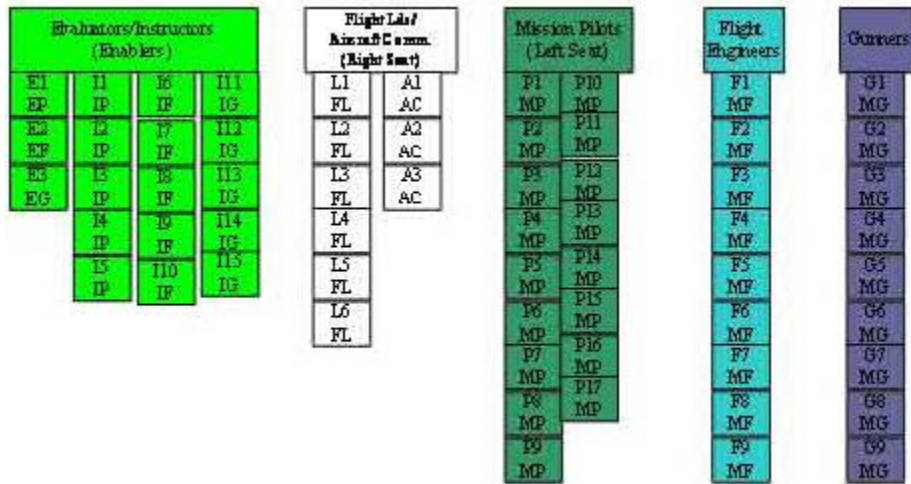

Figure 3. Minimum Manning Map
Step 3: Create a *minimum* manning map. A manning map divides aircrew into separate basic qualifications as well as an enabler category. Each billet in each qualification is given a billet number. These manning slots are built upon our minimum requirements defined in Figure 2, *not* a UMD authorization. These billets are somewhat like position numbers (PN), but more useful. A PN on a UMD might say “you are authorized a pilot,” or “you are authorized 18 flight engineers.” A billet on a manning map says, “I *need* one evaluator pilot, he *will* be in DOV and I will not deploy him,” or “I *need* 5 instructor flight engineers in order to produce three deployable UTCs.” This manning map gives the commander instant awareness of what positions he must fill to meet requirements. Figure 3 is an example *minimum* manning map for our HH-60G squadron. Here personnel resources are organized into labor pools and assigned billets. For example, “E1” is the billet assigned the unit’s evaluator pilot. The minimum manning map answers the question, “How many qualified aircrew do you need right now to fulfill standing taskings?”